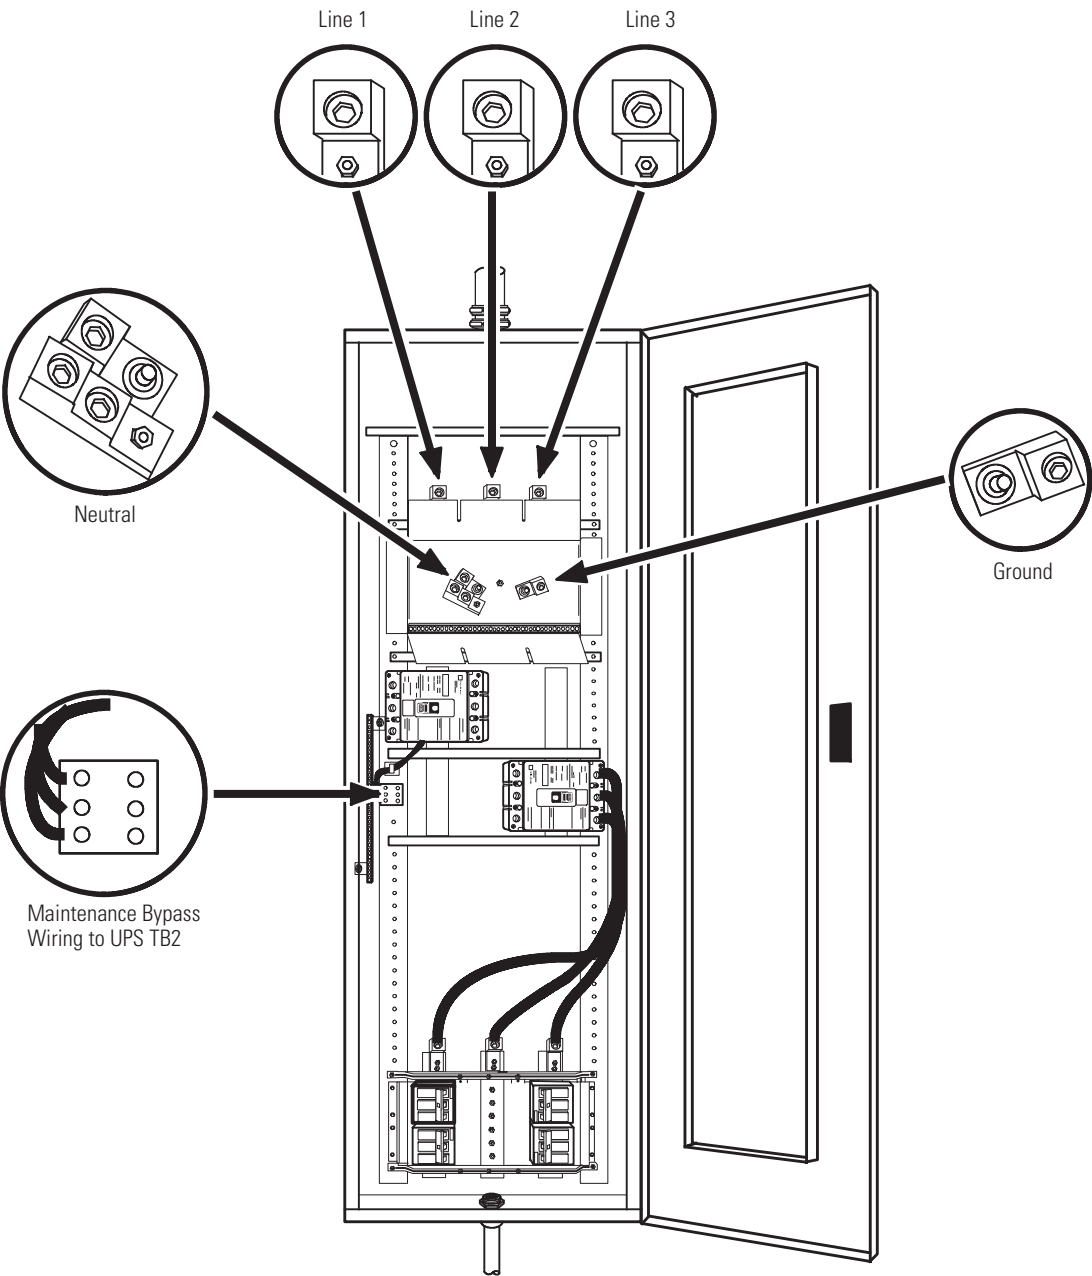

Figure 35. Version 2 Bypass Cabinet Load Connections
16. Hardwire the load to the bypass cabinet (see Figure 35).